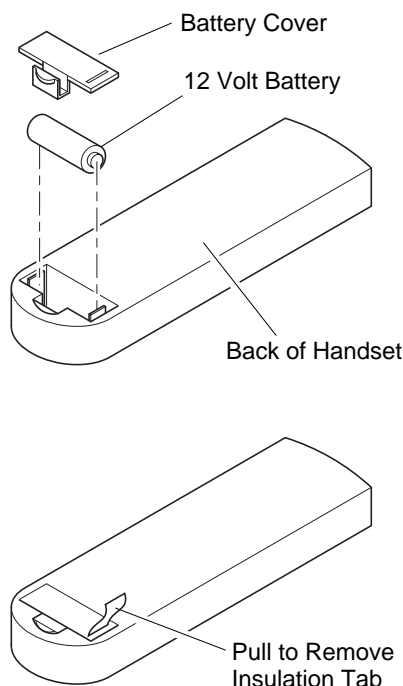

Figure 38 - Installing Battery into Back of Handset
2. Activate the remote handset battery by removing the insulating tab on the back of the handset (see Figure 38). The battery is included pre-installed.